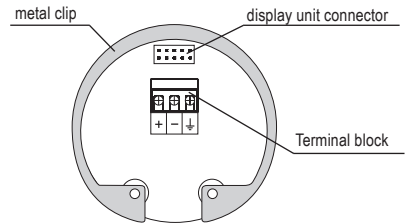

Fig. 20: Inside view of screw terminals of the level meter with current output GRLM-70_--_I
5. Connect the cable to the screw terminals according to the diagram in Fig. 20 or 22. Firmly tighten the terminals and the cable outlet. Tightening torque see. Technical parameters p. 32.
In the event of strong ambient electromagnetic interference, paralleling of conductors with power distribution, or for distribution to distances over 30 m, we recommend grounding the level meter (see above) and using a shielded cable. Ground the shielding of the cable on the side of the power supply, or the shielding is possible to connect only on inside pin of the level meter marked $\frac{\text{—}}{\text{—}}$ see fig. 20 and 22 (the shielding of the cable is always connected in a single location).